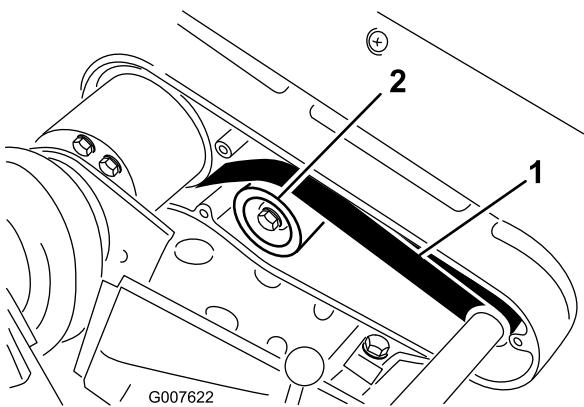

Figure 42
- Check the tension by pressing the belt at mid span of the pulleys (Figure 42) with 22–26 N (5 to 6 lb) of force. The belt should deflect 6 mm (1/4 inch).
- Loosen the idler pulley mounting nut and pivot the idler pulley clockwise against the backside of the belt until the desired belt tension is attained (Figure 42).